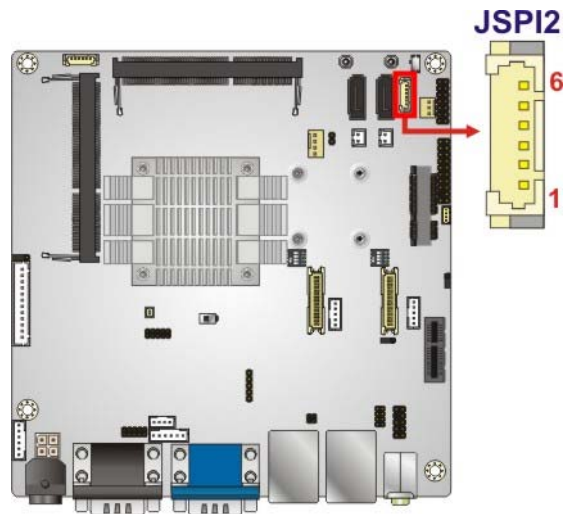

Figure 3-30: EC SPI Flash Connector Location
3.2.28 SPI Flash Connector (EC)
- CN Location:** See **Figure 3-30**